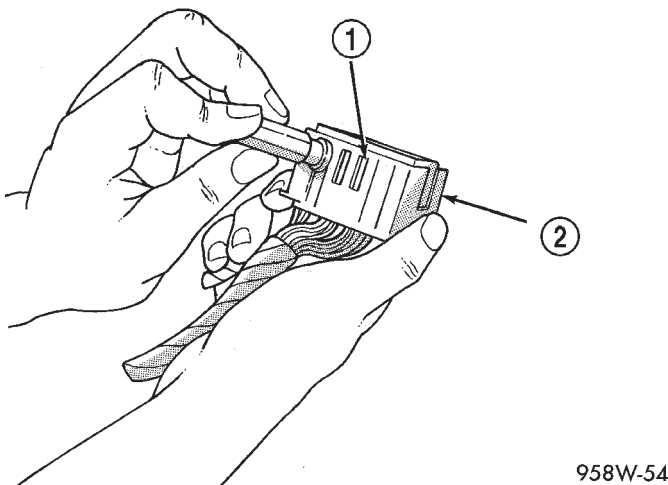

Fig. 13 Augat Connector Repair
- (1) Disconnect battery.
- (2) Disconnect the connector from its mating half/component.
- (3) Push down on the yellow connector locking tab to release the terminals (Fig. 13).